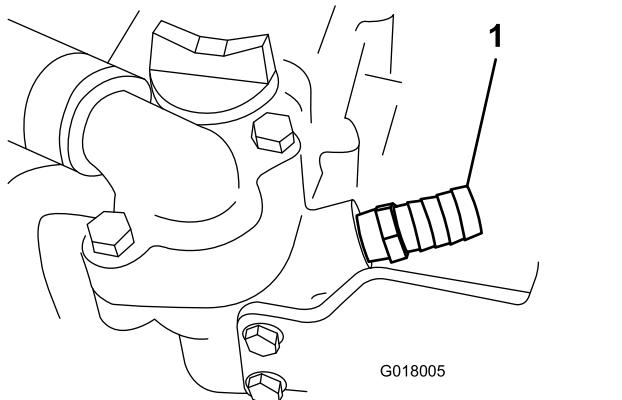

Figure 32
2. Put down a drip pan. Remove the plug under and to the front of the thermostat housing, apply pipe sealant to the threads on the straight fitting (5/8 inch), and install it on the machine (Figure 32).